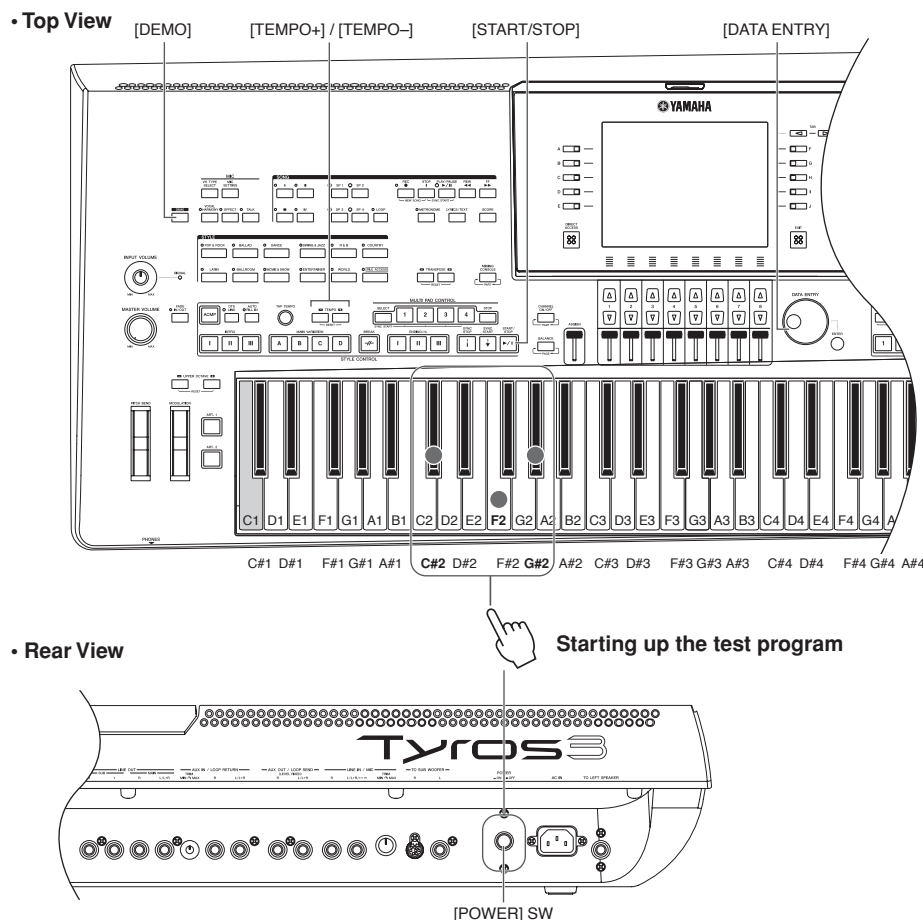

Fig. 1
Turn on the [POWER] switch while holding down the [C#2], [F2], and [G#2] keys (C#2 major code). (Fig. 1)
- 2) To increase test item number: Press the [TEMPO+] button or turn the [DATA ENTRY] dial clockwise. (Fig. 1)
To decrease test item number: Press the [TEMPO–] button or turn the [DATA ENTRY] dial counterclockwise. (Fig. 1)
To execute the test: Press the [START/STOP] button once. (Fig. 1)
Press the [START/STOP] button again to go back to the item selection display. (Fig. 1)
Press the lowest key (C1) on the keyboard or the [DEMO] button to go back to the item selection display. (Fig. 1)